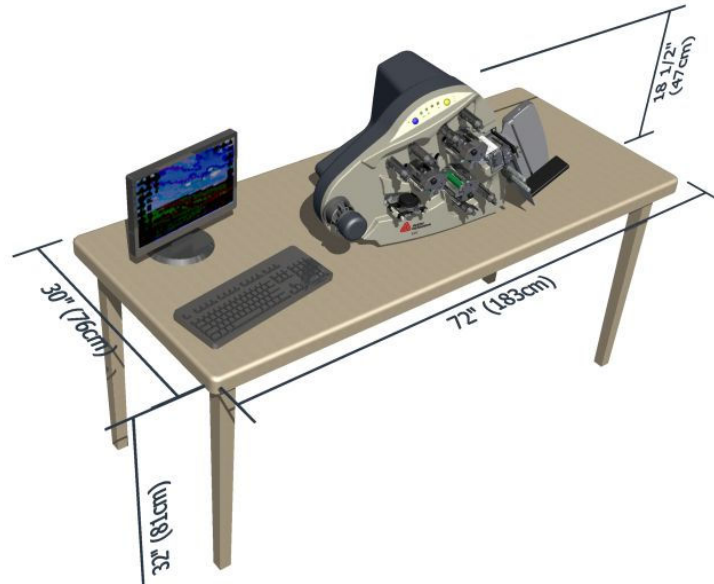

Figure 1: Recommended Workstation Layout
The SNAP 500 printer weighs 55 pounds (25 kg) and requires a table of sufficient quality and strength to handle this load. The printer requires an area of approximately 72" wide x 30" deep x 32" high (1.8 m x 76 cm x 81 cm). The host PC (if used) and any printer options will increase the required area. AVERY DENNISON recommends using an industrial type worktable. Refer to Figure 1 below.
1. Physical demands on the operator will dictate proper height of the table supporting the printer. Ensure the operator has comfortable access to the printer. Refer to Figure 1.